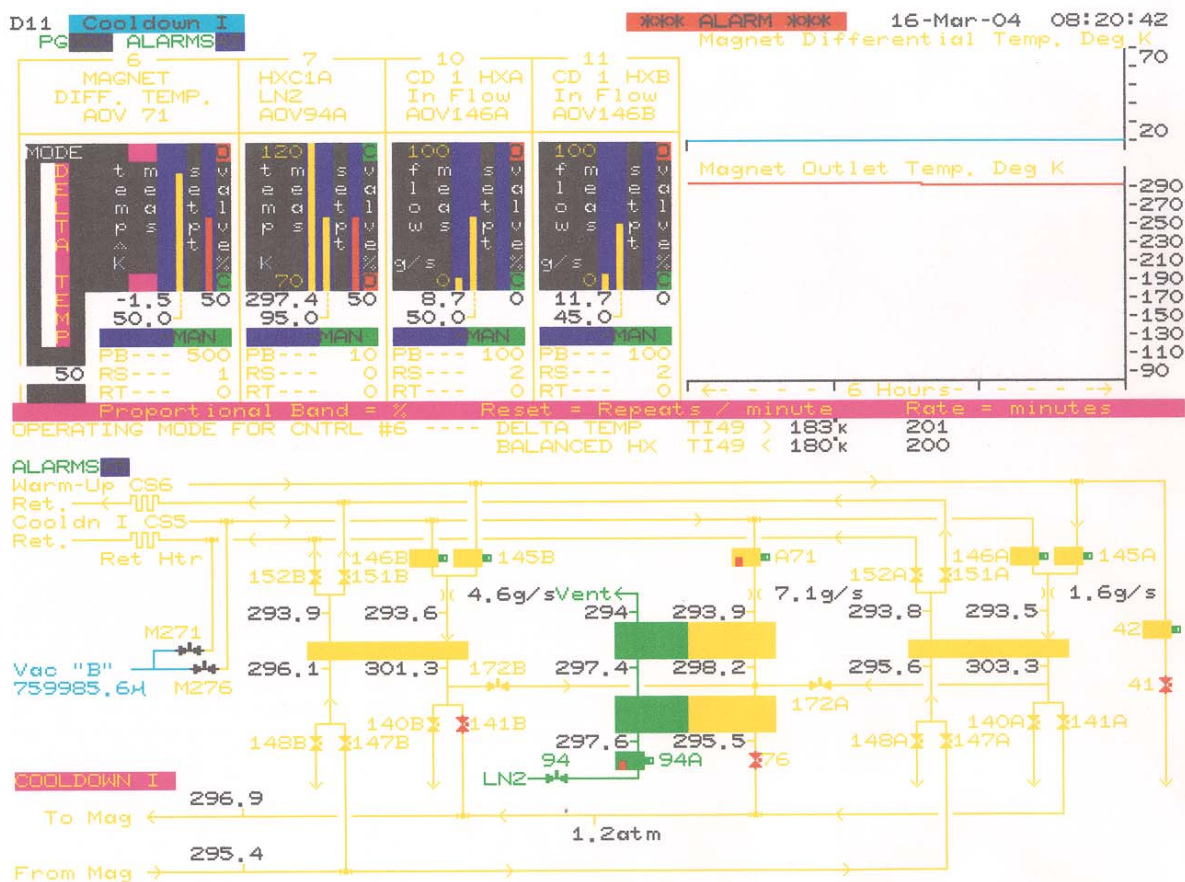

Figure 1. Display of control page D11 for Cooldown I
- 5.6 Operation of Cooldown #1 is computer controlled. Process condition and the controller can be seen from the screen, Figure 1. In Figure 1, counter flow heat exchangers and a nitrogen heat exchanger are shown. Depending on the operating condition, a counter flow heat exchanger is selected. Temperatures to and from the magnet are given in the lower left corner. The controllers, for liquid nitrogen and flow split among heat exchangers, are located in the upper left. (Note: the controllers are set up for MAGCOOL parameters. There is no need to change for typical operation.) Trends for differential temperature across the magnet and magnet outlet temperature are given in the upper right.